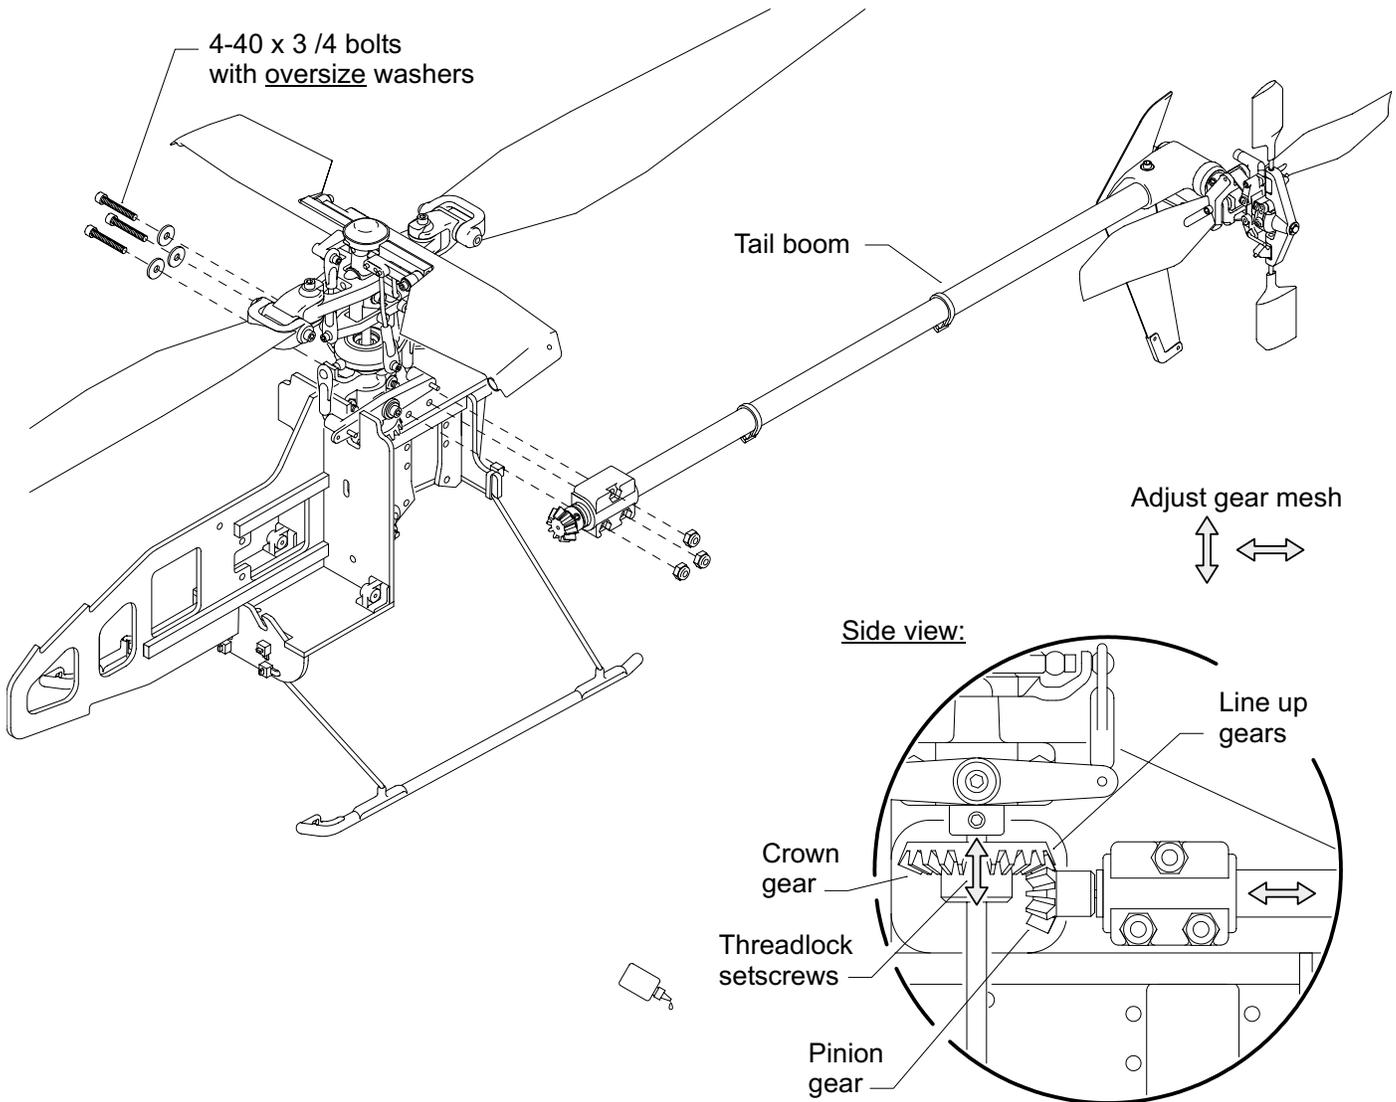

**Figure 12-3.**
- ❑ 3. Mount the rotor head back onto the top of the main shaft as shown in Fig. 12-3 (review Fig. 7-10 if necessary).
- ❑ 4. Snap the follower link onto the middle of the three swashplate universal balls. Loosen the setscrews in the two bearing collars on the main shaft (see Fig. 7-9 if necessary) in order to adjust the height of the shaft. Move the shaft up or down until the *Subrotor* stabilizer and follower arm are level with the swashplate and fore/aft control arm as shown in Fig. 12-3.